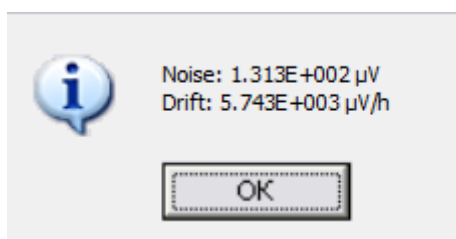

Fig. 43: Calculated Noise and Drift
1. Select the start and the end of the analysis section. A window opens with noise and drift values (Fig. 43).